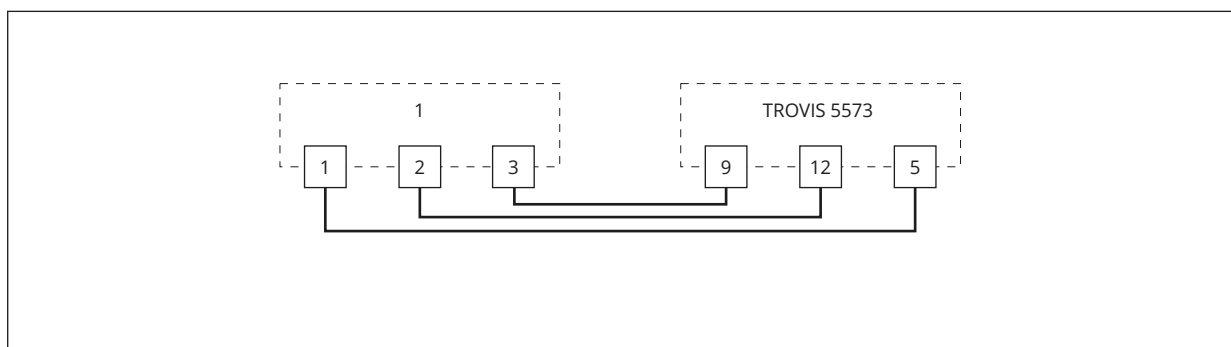
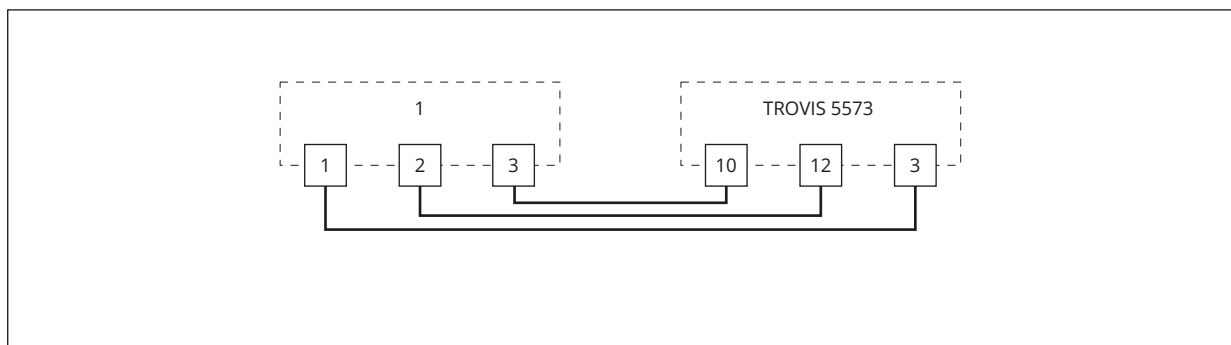

Fig. 6: Wiring of a room panel for RK1
Fig. 7: Wiring of a room panel for RK2
- ⇒ Connect as shown in Fig. 6 and Fig. 7.